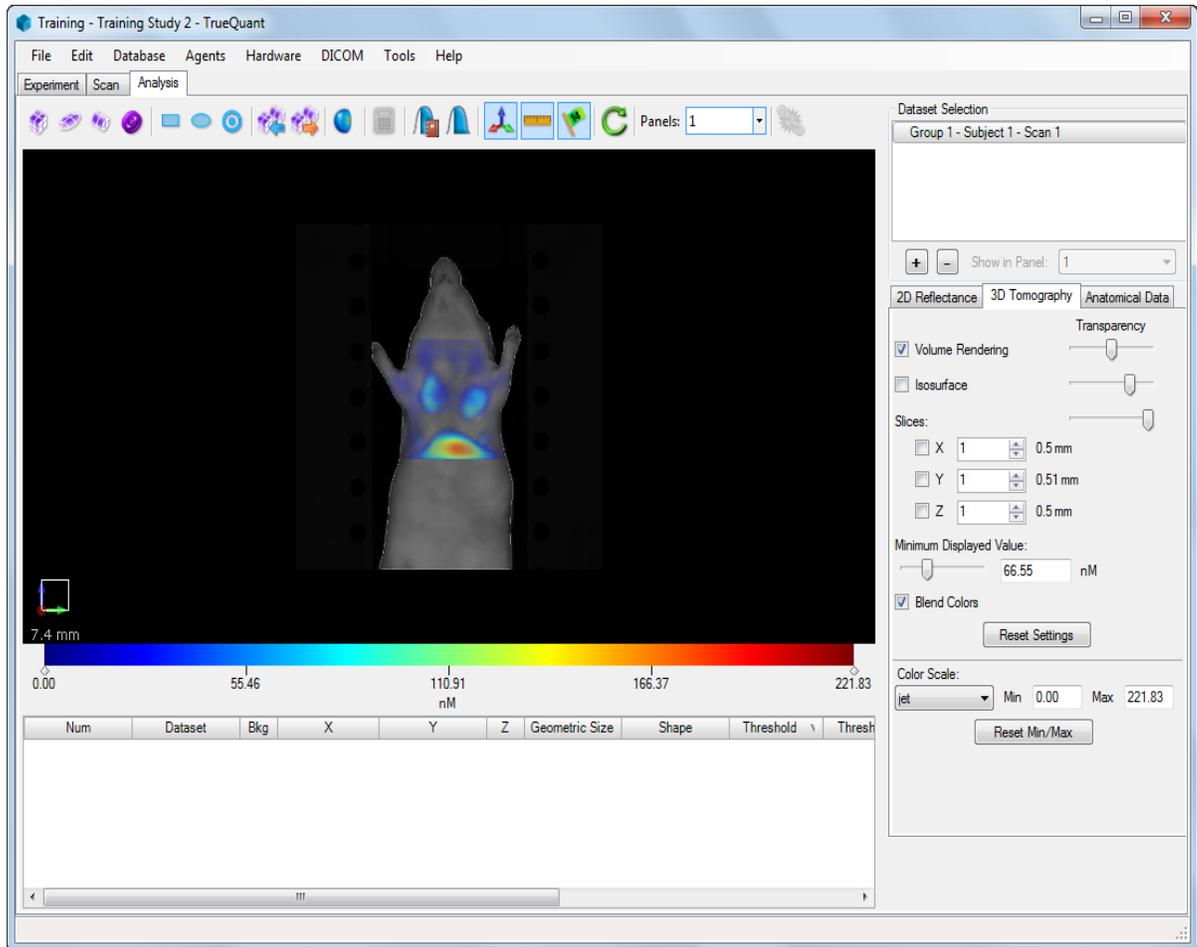

Figure 7-3. The **Analysis** tab after loading a scanned and reconstructed tomographic dataset.
- On the **Experiment** tab, select the desired dataset. If desired, use Ctrl or Shift to select multiple datasets. Right-click on a selected dataset and select **View Analyses** from the shortcut menu. The display automatically switches to the **Analysis** tab with the selected dataset loaded and displayed (Figure 7-3). Any scans that were previously open in the Analysis tab are closed.